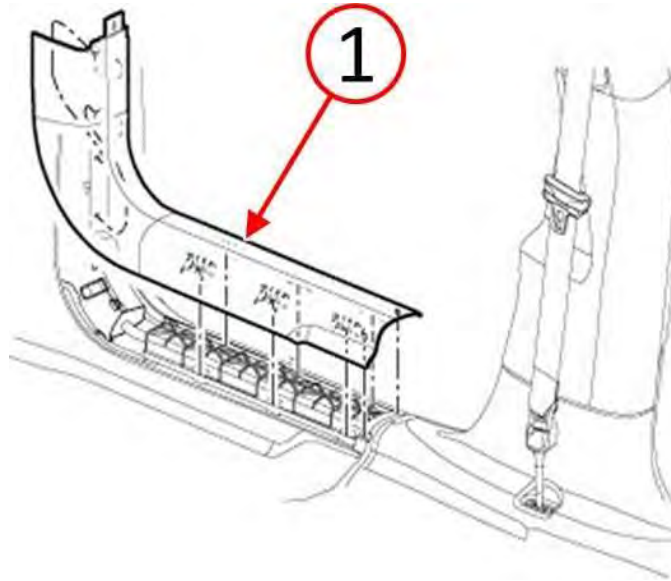

Fig. 5 Remove Right Front Door Sill Scuff Plate
- Using a trim stick or equivalent, disengage the retaining clips and remove the front door sill scuff plate (1) from the door sill and lower B-pillar trim (Fig. 5).